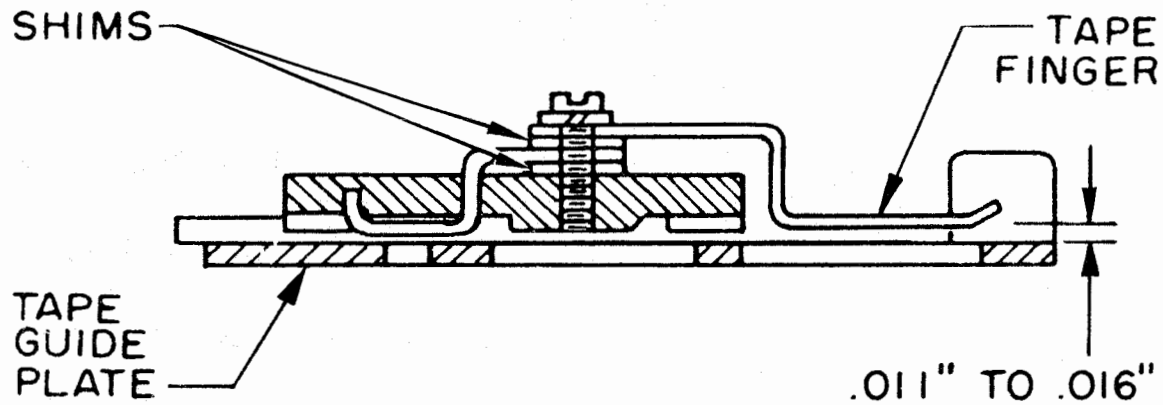

Figure 39
11.01 Tape Finger: When the retaining lid is latched and play taken up in a direction for minimum clearance, the clearance between the tape finger and the tape-guide plate shall be minimum 0.011, maximum 0.016 inch. (See Figure 39.)